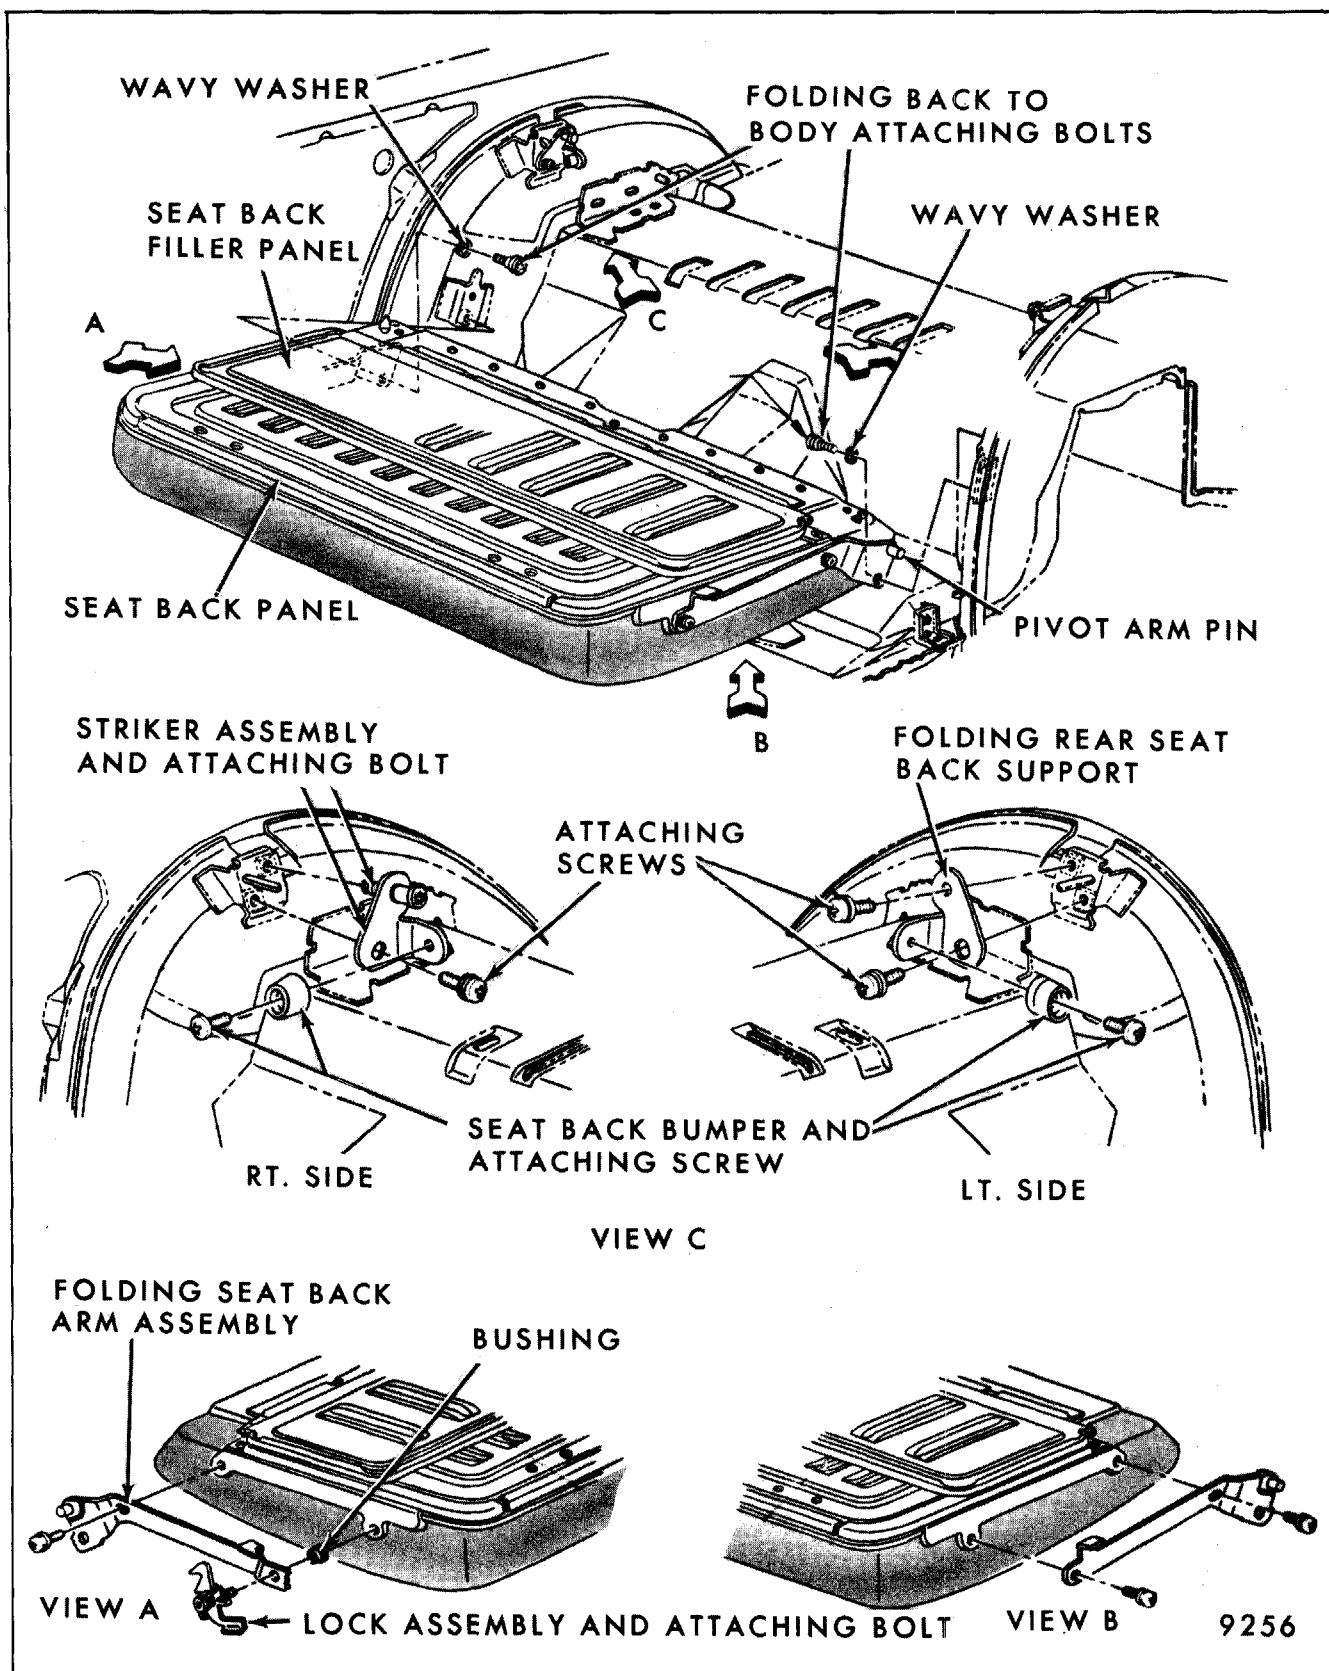

Fig. 9-103-Folding Rear Seat Back and Lock Installation Assembly - H-07, 15, 27 and 77 Styles Shown (X-17 Styles Typical)
bolts (see Fig. 9-103) securing pivot arms to pivot arm supports; then remove seat back assembly from body.
2. To remove seat back pivot arm(s), remove lock and pivot arm attaching bolt on right side and/or pivot arm attaching bolts on left side (see Fig. 9-103), then remove pivot arm(s).
2. Remove lock assembly (includes attaching bolt, lock spring, latch, handle and bushing) (Fig. 9-103).
Removal and Installation (See Fig. 9-103)